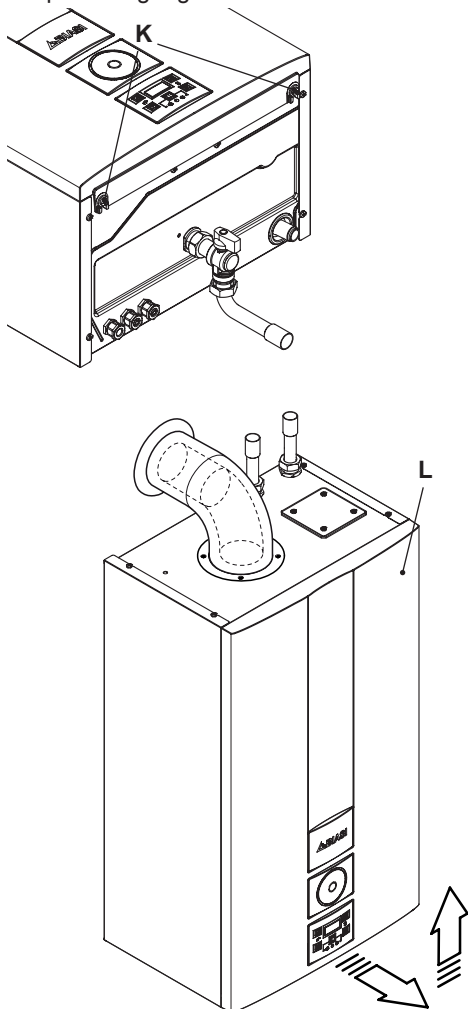

Fig. 6.14
- Unscrew screws "K" and remove the front panel "L" by pulling it and pushing it towards the top so that it is freed from the top housing Fig. 6.14.